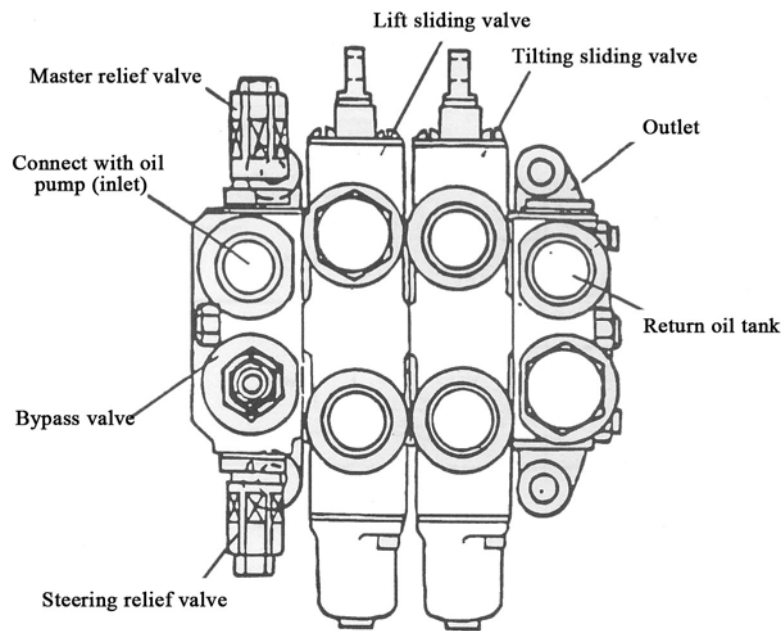

Fig 7.2 Multi-way Valve
7.3 Multi-way Valve (See Fig 7.2)